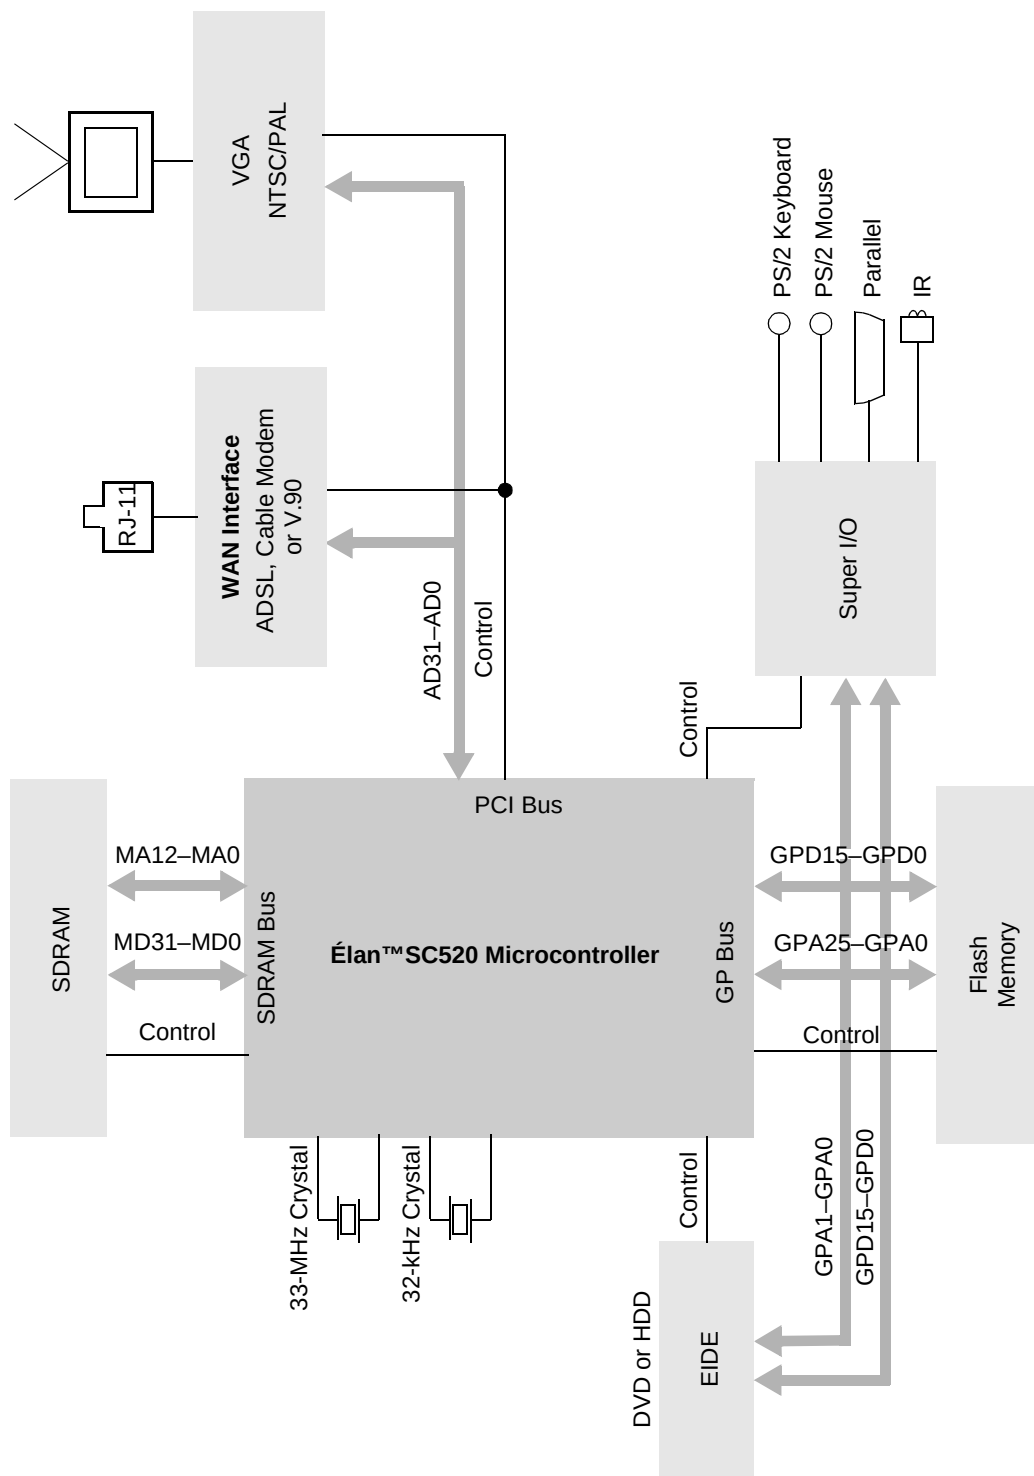

Figure 4. Élan™ SC520 Microcontroller-Based Digital Set Top Box Reference Design
- Figure 4 on page 36 shows an ÉlanSC520 microcontroller-based digital set top box (DSTB), which is a consumer client device that uses a television set as the display. Common applications for the DSTB are internet access, e-mail, and streaming audio and video content.